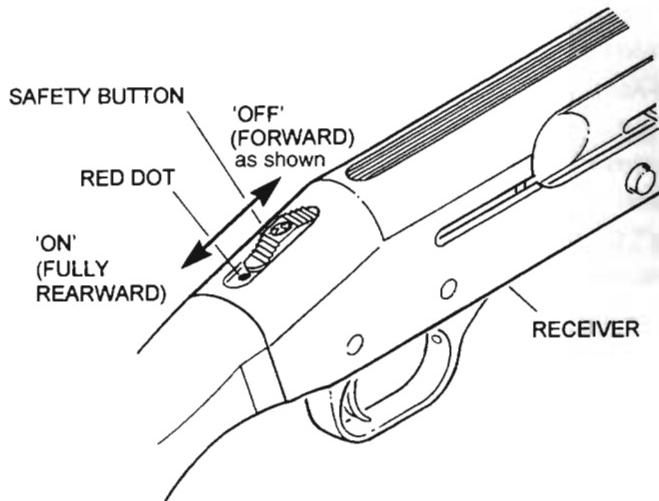

Figure 1
The safety button is located on the top rear portion of the receiver (Figure 1) and must be manually moved to the desired position by the shooter.
Be sure the firearm is unloaded and the safety button is fully rearward in the "ON" (SAFE) position (Figure 1).
**SHOTGUN CAPACITY** – Five (5) 3" shotshells (4 in the magazine tube, plus one in chamber), or Four (4) 3 1/2" shotshells shotshells (3 in the magazine tube, plus one in chamber).
**MAGAZINE PLUG** – You are responsible for complying with all laws regarding magazine capacity. To comply with U.S. migratory bird laws, your shotgun was shipped with a wooden dowel inserted into the magazine tube which limits magazine capacity to two (2) shells.
**!** Before loading, move the safety button fully rearward to the "ON" (SAFE) position (Figure 1).
**!** The shotgun is now loaded! The safety button (Figure 1) should be kept fully rearward in the "ON" (SAFE) position until you are on target and have actually decided to fire. Keep the muzzle pointed in a safe direction at all times, and your fingers and any other objects away from the trigger area.